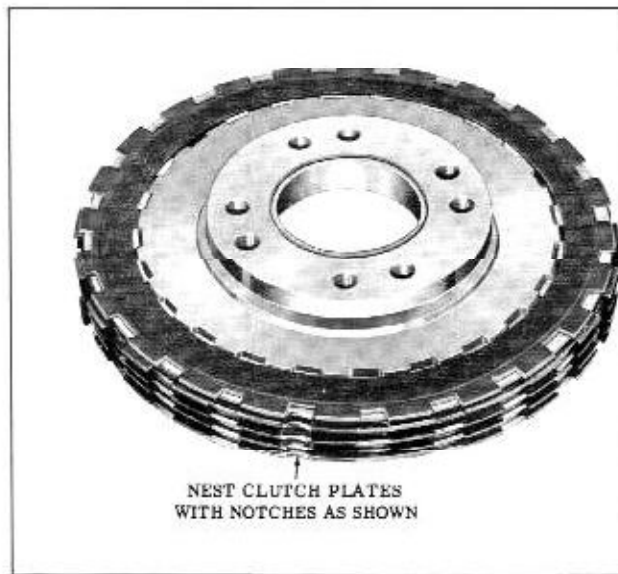

Fig. 3-64 Assembling Clutch Plates
6. Install five composition drive and five steel driven front clutch plates alternately, nesting them as follows: (Fig. 3-64)